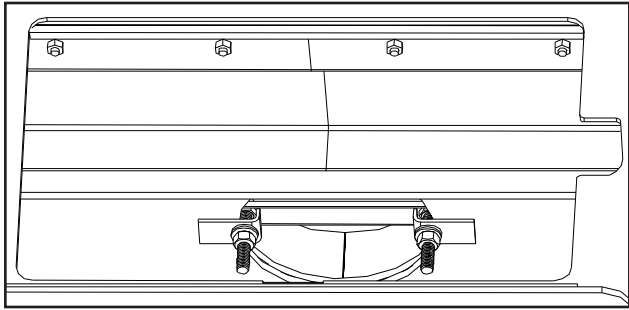

Figure 41: Removable flue collar in place.
- f) Place the Collar Puller, over the two bolts of the Flue Collar and pull it into place (see Figure 41). Ensure that the bolts are to the left and right of the hole. If they are not, the front secondary air tube will need to be removed in order to install or remove the C-Cast Ceramic Baffles.
- h) Re-install C-Cast Ceramic Baffles and the rear two (2) secondary air tube (see C-CAST CERAMIC BAFFLE INSTALLATION).